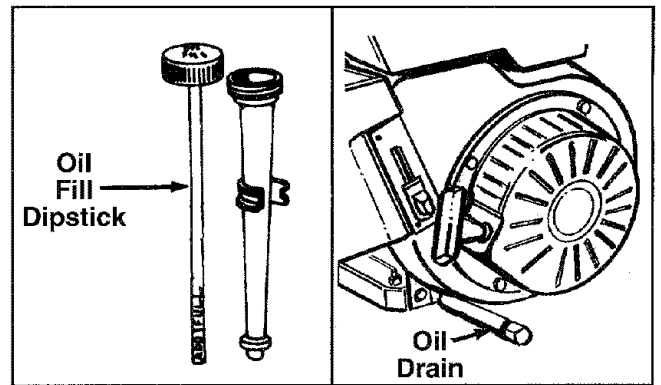

FIGURE 12.
- Fill engine with oil as follows. Remove oil fill dipstick. See figure 12. With chipper-shredder level, use a funnel to fill engine with oil to FULL mark on dipstick. Capacity is approximately 21 ounces. Be careful not to overfill. Tilt chipper-shredder toward the left (from behind the hopper), then re-level. Check oil level. Refill to FULL mark on dipstick if necessary. Replace dipstick and tighten.
Your four-cycle engine will normally consume some oil—therefore, check engine oil level regularly approximately every five hours of operation and before each usage. Stop engine and wait several minutes before checking oil level. With engine level, the oil must be to FULL mark on dipstick (refer to figure 12). Change engine oil after the first five hours of operation, and every twenty-five hours thereafter.
- a. Remove oil drain plug. Refer to figure 12. Catch oil in a suitable container.